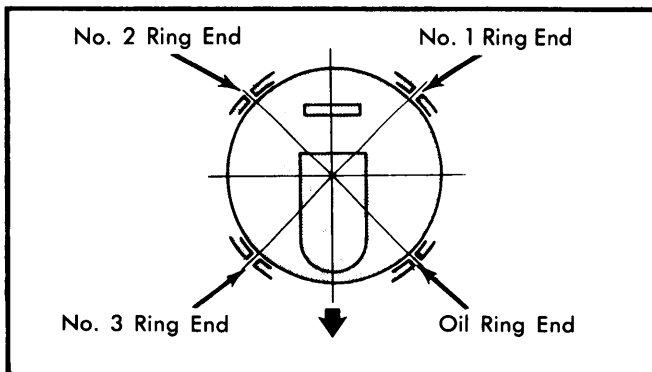

Fig. 8 Piston Ring Gap
**Installation** — 1) Oil piston rings, piston and sleeve wall lightly with engine oil. Install piston in original location making sure ring gaps are positioned as shown in Fig. 8.